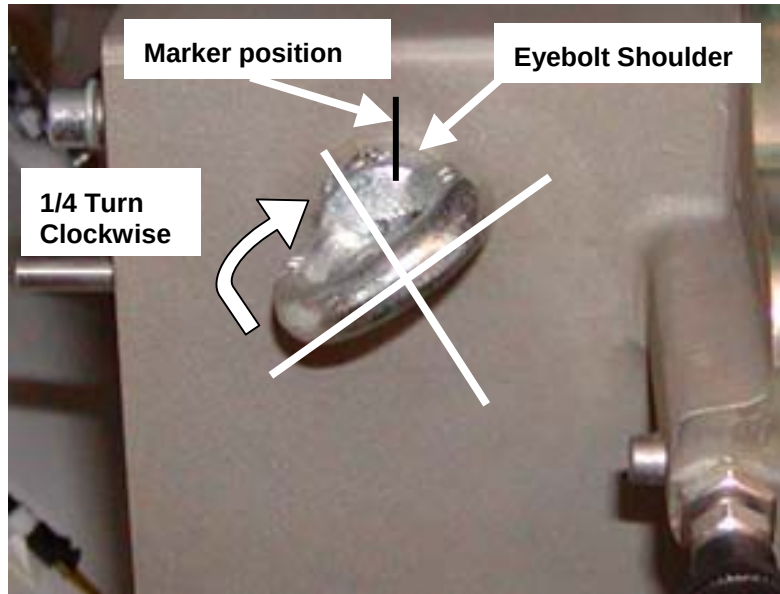

Figure 2 - Torque rotation (no more than $1/4$ turn)
- b. With a screw driver, insert the shaft through the Eyebolt. Turn the eyebolt clockwise more than $1/8$ turn and no more than $1/4$ turn. This will ensure proper torque is applied to the eyebolt. See Figures 2 and 3.